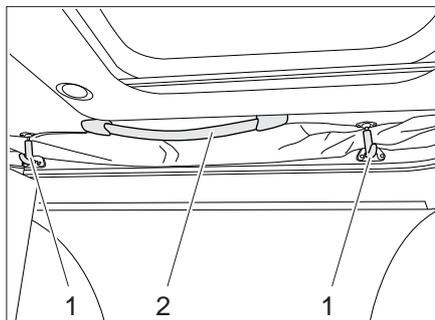

Fig. 52 Lifting roof
- Release the safeguards (Fig. 52,1) by pulling them lightly.
- Push the lifting roof upwards at the handles (Fig. 52,2).
- Pull the lifting roof downwards at the handles (Fig. 52,2).
- Lightly pull the safeguards (Fig. 52,1) downwards and hook them in again.